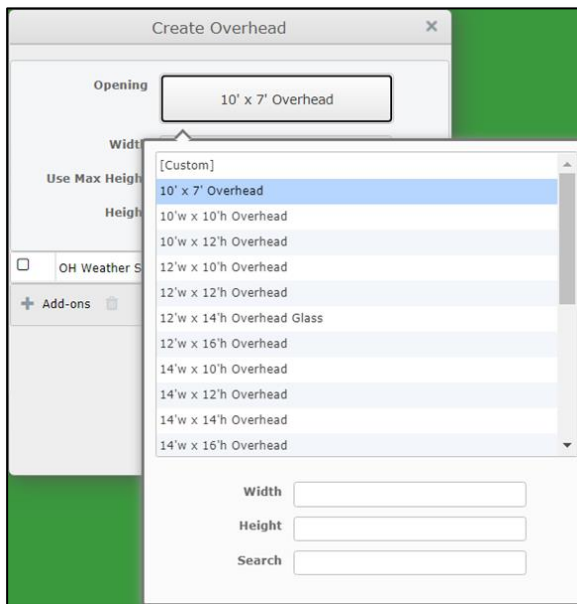

Figure 6: The drop-down list for the Overhead Door Opening.
**Opening** – Click on the *Opening* field to activate a drop-down list of the available Overhead Door options. (See Figure 6, left.) You can either select an item from this list by clicking on it, or you can choose the *Custom* option to enter a door *Height* and *Width* not otherwise available on this list.